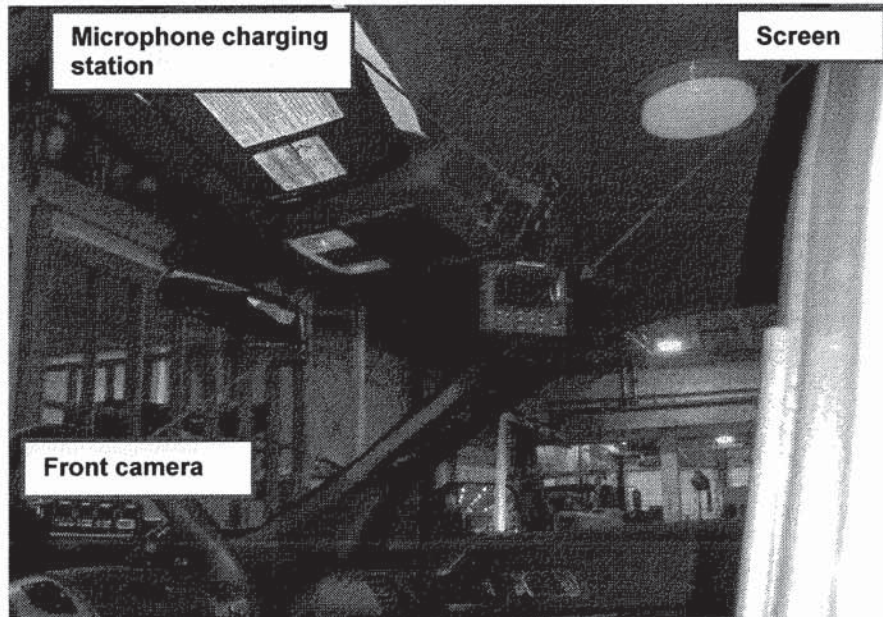

Figure 20 –MVRS modular system (front camera, microphone charging station and screen)
32. The MVRS shall be installed in Ford Police Interceptor Utility marked MP vehicle. Directions and specifications on MVRS can be founded in CF MP Gp Order 2-820 in Appendix 4 to Annex A . *Figures 20, 21 and 22* contain illustrated examples of the installation of MVRS.